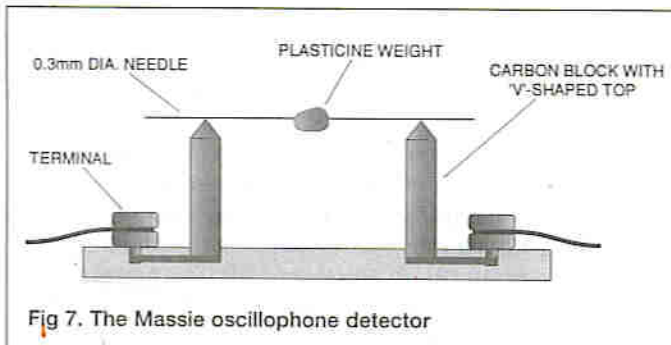

Fig 7. The Massie oscillograph detector
C. Massie's oscillophone (Fig 7)